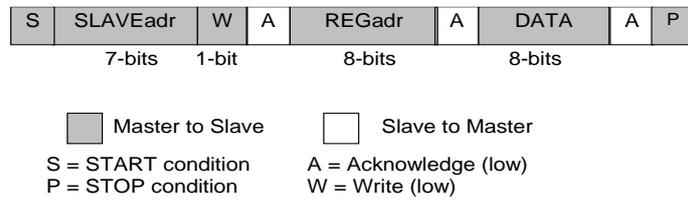
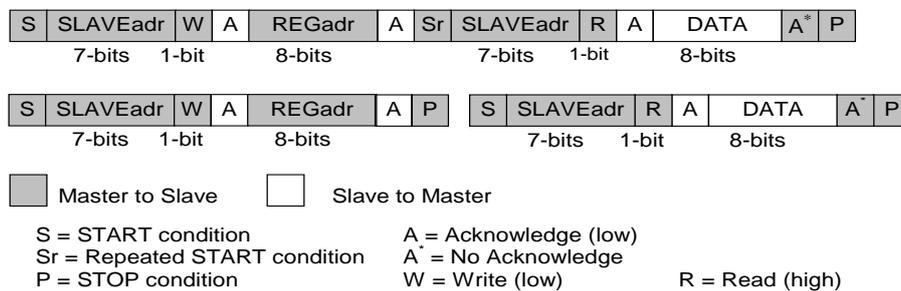

Figure 17. I2C Byte Write (SDA Line)
Figure 18. I2C Byte Read (SDA Line) Examples
The I2C bus is monitored for a valid slave address whenever the interface is enabled. It responds immediately when it receives its own slave address. The acknowledge is done by pulling the SDA line low during the following clock cycle (white blocks marked with A in Figure 17 and Figure 18).
The protocol for a register write from master to slave consists of a START condition, a slave address with read/write bit, and the eight-bit register address followed by eight bits of data, terminated by a STOP condition. DA9131-A responds to all bytes with acknowledge (A), see Figure 17.
When the host reads data from a register it first has to write to R16DS0569EJ0300 with the target register address and then read from R16DS0569EJ0300 with a repeated START, or alternatively a second START, condition. After receiving the data, the host sends no acknowledge (A\*) and terminates the transmission with a STOP condition, see Figure 18.